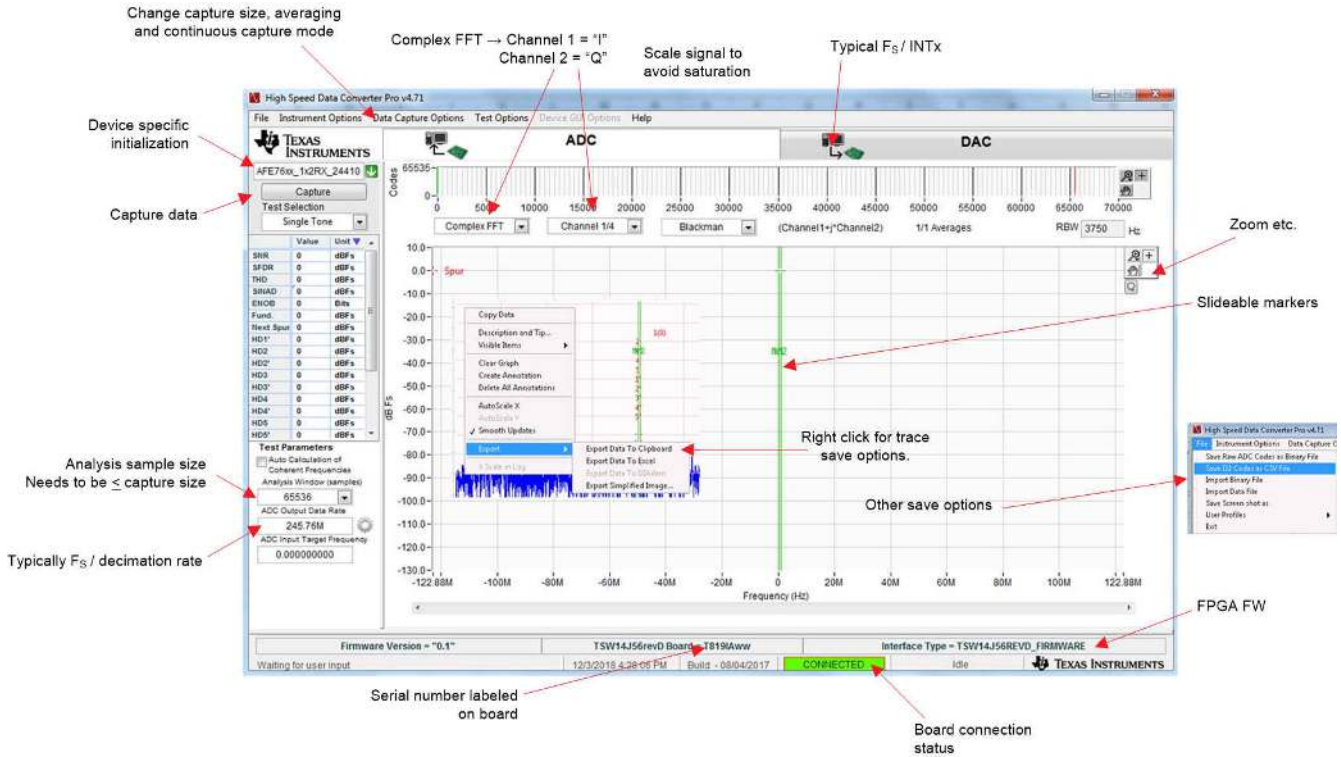

Figure 7-5. HSDC Pro ADC Tab Overview
1. Click on the HSDC Pro ADC tab. Figure 7-5 shows a brief description of the ADC tab.